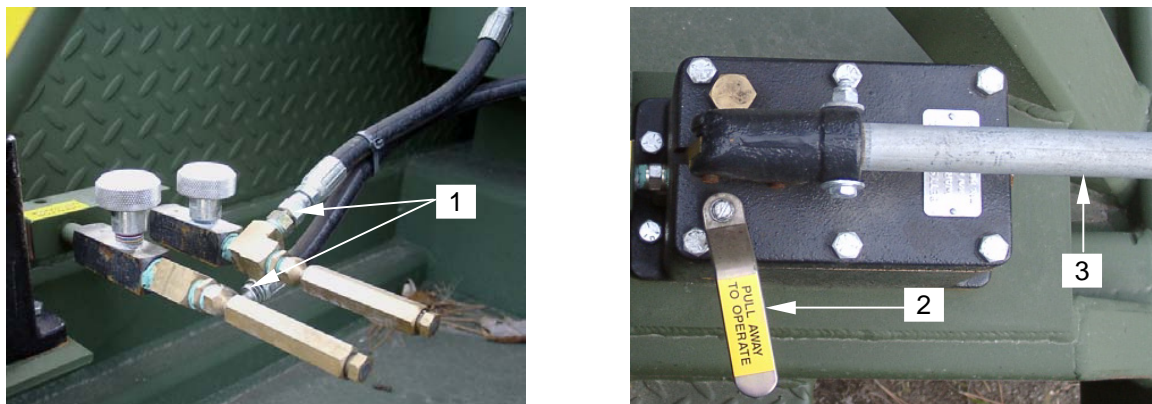

Figure 5. Re-connecting Hoses
9. Re-connect hoses to the T fittings (**figure 5, item 1**).
11. Place the pump lever (**figure 5, item 2**) diagonally away from the handle and slowly operate the pump handle (**figure 5, item 3**).